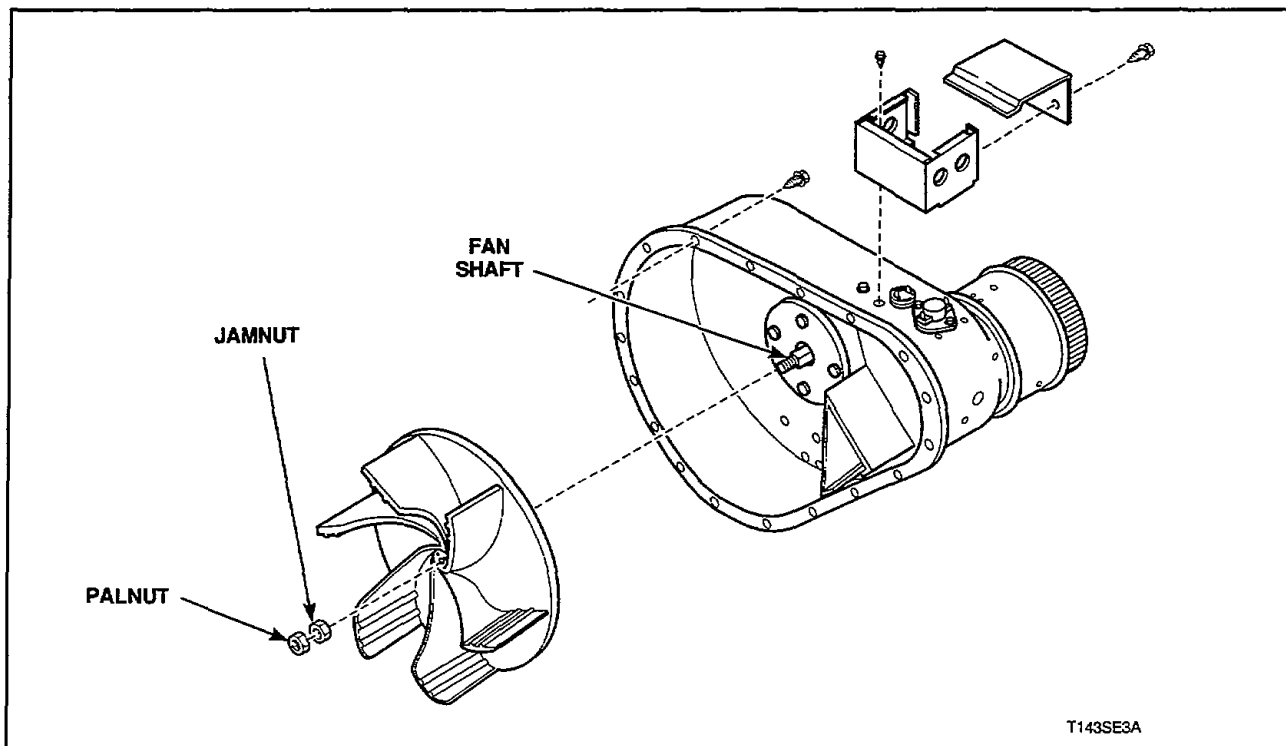

Figure 30
- With fan housing assembly off cabinet, hold fan while loosening palnut and jamnut, *Figure 30*.
**34. FAN BEARING, SHAFT AND HOUSING ASSEMBLY (Figure 30)**